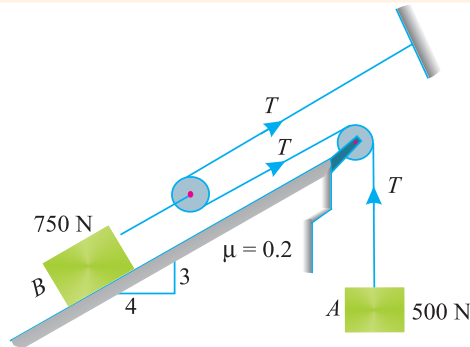

Fig. 25.13.
**Example 25.10.** The system of bodies shown in Fig. 25.13 starts from rest.